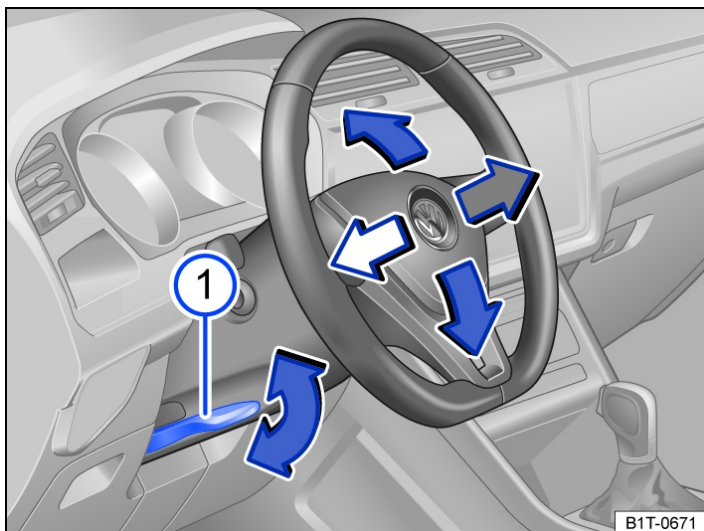

Fig. 1 Below the steering wheel in the steering column trim: lever for mechanical adjustment of the steering wheel position.
— Push down the lever → Fig. 1 ①.
- After adjusting the steering wheel, always move the lever → Fig. 1 ① up firmly. This prevents the steering wheel from moving accidentally while the vehicle is in motion.